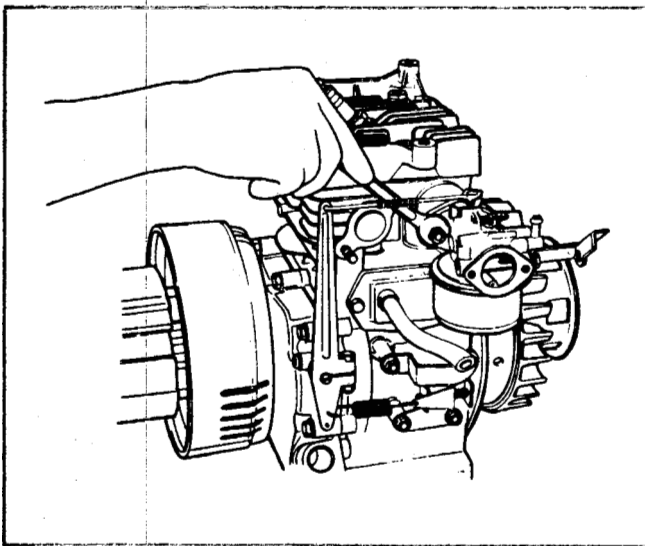

Figure 67
21. Remove the carburetor. Use care as the carburetor fuel bowl will still contain gasoline. See Figure 67.